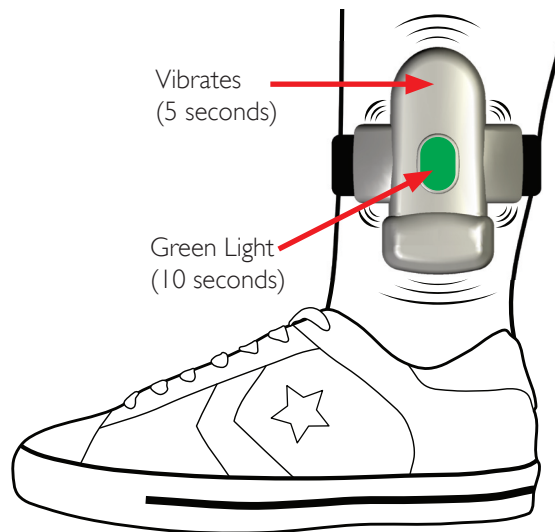

Figure 7—Remove the tool from the SOLO
15. Close the strap-fitting-lever and remove the tool from the SOLO. **(Figure 7)**